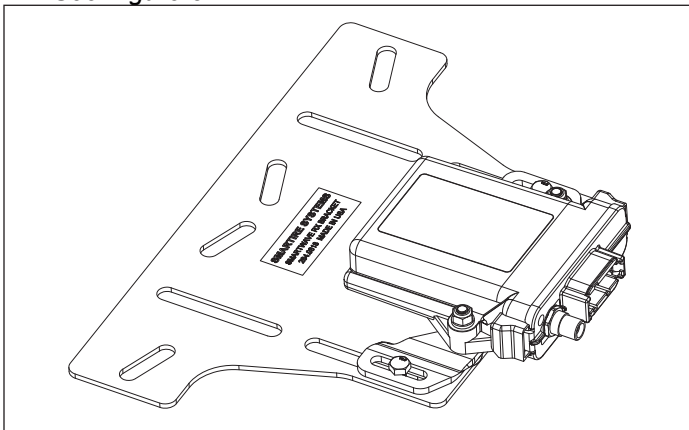

Figure 8 - Mounting the New ECU on the Bracket
2. Mount the new ECU onto the studs of the bracket and secure the ECU with the supplied washers and nuts. Slide the bracket on the original plate to optimize the ECU location. Ensure the ECU is not in contact with any other components on the vehicle. Then, tighten the bolts between the adapter plate and the original bracket. See Figure 8.